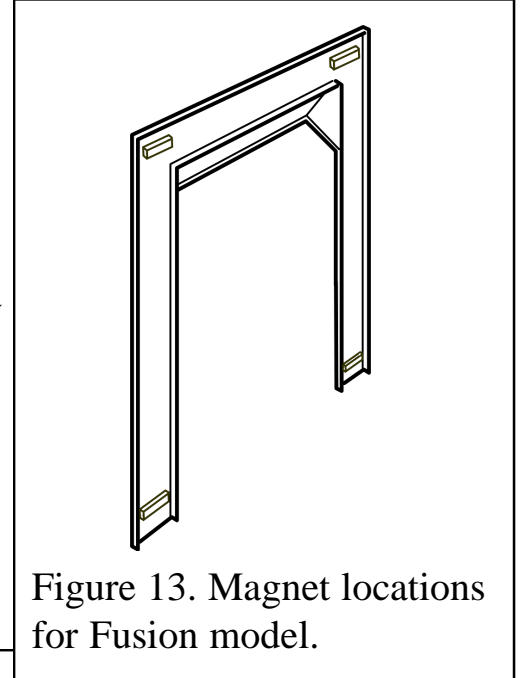

Figure 13. Magnet locations for Fusion model.
1. Removing the fascia may have moved the magnets used to fix the fascia to the heater. The magnets should be located as in figure 13.